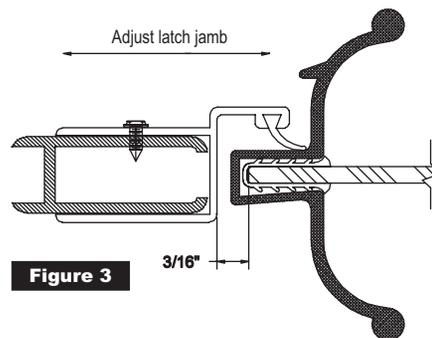

Figure 3
3. Set latch jamb (18) in place over wall channel, but DO NOT SECURE!
4. Set hinge jamb with door attached (2 & 11) in place over wall channel. Adjust laterally, plumb to fit opening. Mark three holes on wall channel through the predrilled holes on hinge jamb. Drill three holes with a #31 drill bit and secure with #6 x 3/8 SMS screws (21).
5. Apply 3" vinyl channel (19) to edge of glass, centered on handle side. Tap handle (20) in place over vinyl channel.
6. Align latch jamb (18) with edge of door glass and mark wall channel (15) location on wall. Remove latch jamb and mark holes on wall. Lean wall channel to one side to allow enough room for drill and drill the remaining two holes on wall. Insert wall anchors (16).
7. Replace wall channel and secure remaining two holes in wall channel using two #8 x 1 1/4" screws (17).
8. Replace latch jamb over wall channel. Close door and adjust latch jamb 3/16" from edge of glass (See figure 3). Through the holes provided in the latch jamb, drill three #31 holes in wall channel. Secure latch jamb to wall channel with #6 x 3/8 SMS screws (21).